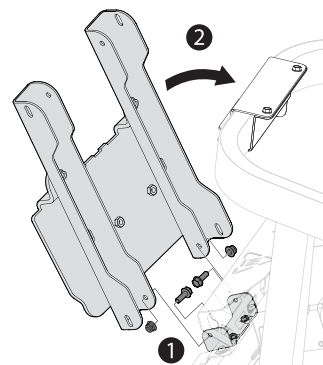

Figure 7
2. Working from inside-out, secure mounting plate/strut bracket assembly to lower bracket with two hex head screws (710-1238) and two lock nuts (712-04063). See (1) in Figure 7.
3. Swing upper arms of mounting plate/strut bracket assembly toward tractor frame, aligning outside slots with holes on downward flanges of keeper bracket previously attached to frame. See (2) in Figure 7.